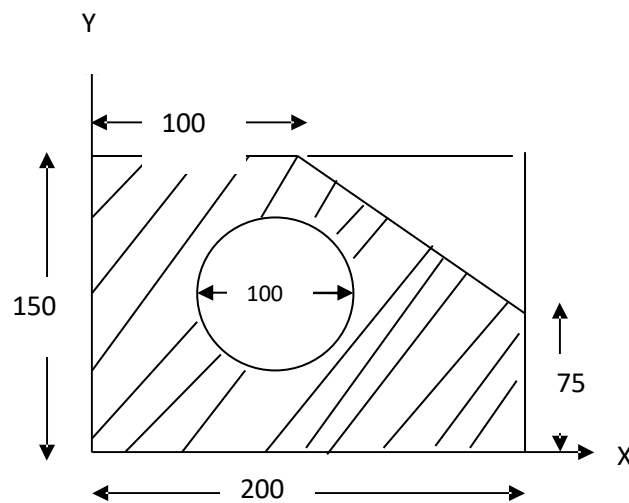

Fig.7
- b. Locate the coordinate X_c and Y_c of the center of a 100 mm diameter circular hole cut in a thin plate so that this point will be the centroid of the remaining shaded area as shown in **fig.7**.